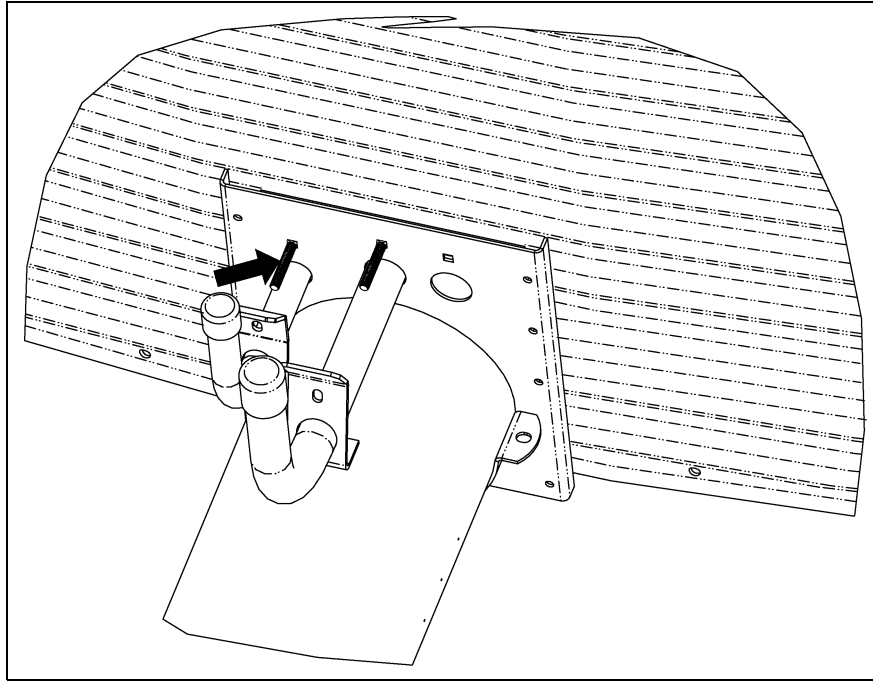
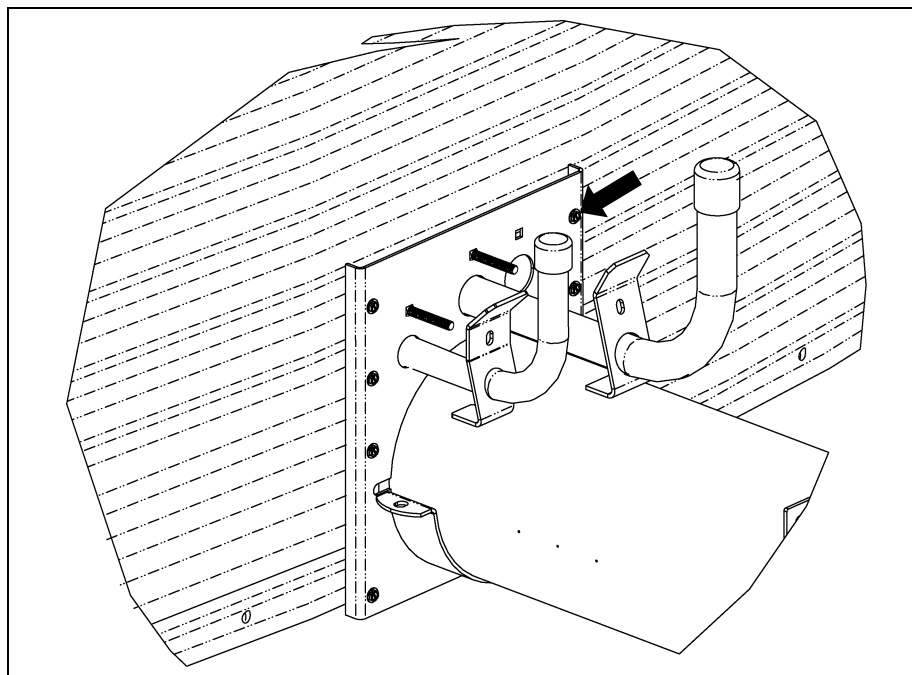

Figure 5R
Figure 5S
15. Block up the outside end of the discharge tube so that the tube does not rest on the bin wall sheet. Next, insert two (2) 5/16" x 2" carriage bolts which hold the control tube latches onto the face plate, then attach the wall plate and wall seal to the bin wall using eight (8) 1/4" x 1-3/4" self-drilling screws. **NOTE:** Discharge tube cannot rest on bin wall sheet. (See Figure 5R and Figure 5S.)